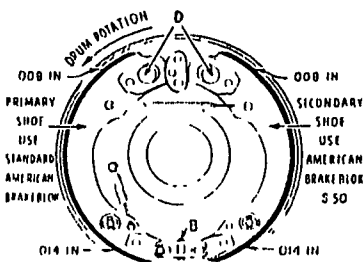

Figure 11
- 2 Loosen anchor pin nuts D (Fig. 11) free of lock washers.
- 4 Tighten anchor nuts D (Fig. 11) as tightly as possible with a large wrench.
- 6 Back off adjusting screw star wheel B (Fig. 11) until brake is just free of drag. This is done at each wheel.
Figure 11 shows the recommended brake lining when material cut from roll stock is used.
It is important to have the operating cam installed so that the curved portion of the cam operates against the toe of the primary shoe, as shown in Figure 11, with the straight side of the actuating cam on the secondary shoe side.